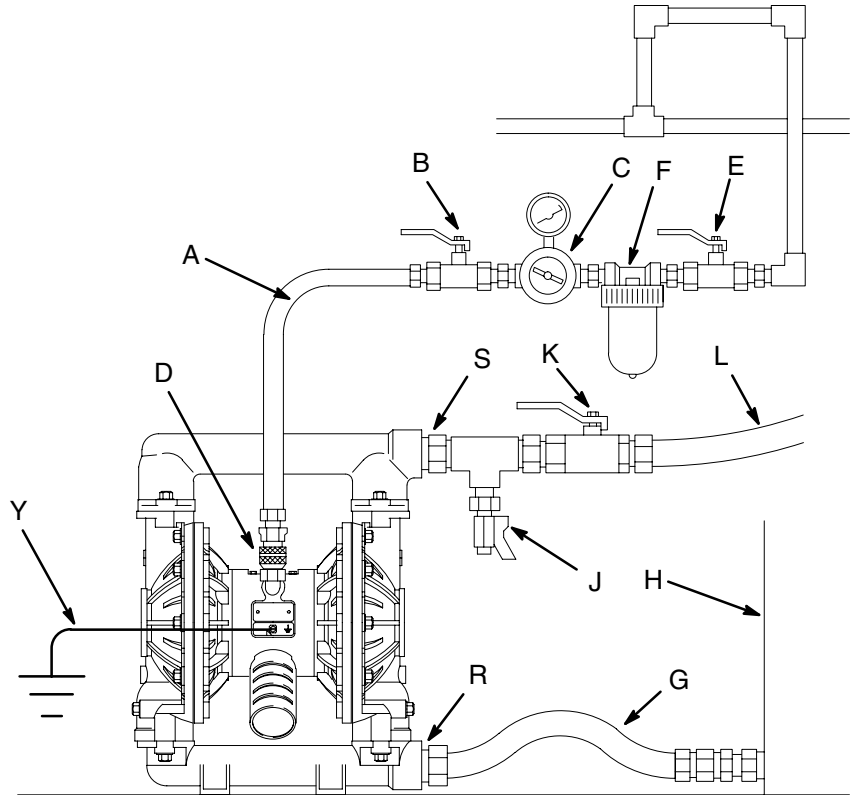
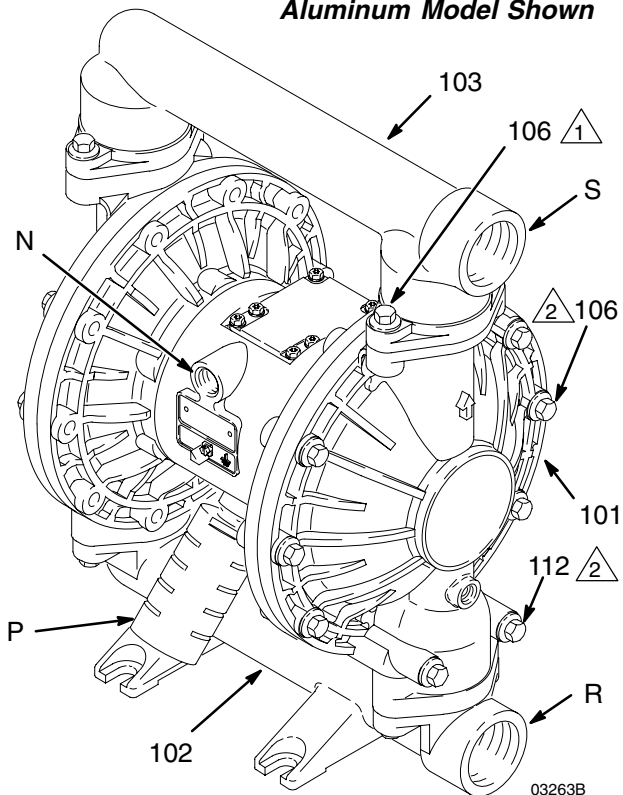

Fig. 2
Fig. 3
1. The Typical Installation shown in Fig. 2 is only a guide for selecting and installing system components. Contact your VERDER Customer Service for assistance in planning a system to suit your needs.
4. Lift the pump by grasping the outlet manifold (1) securely. See Fig. 3 on page 7.
A bleed-type master air valve (B) is required in your system to relieve air trapped between this valve and the pump. Trapped air can cause the pump to cycle unexpectedly, which could result in serious injury, including splashing in the eyes or on the skin, injury from moving parts, or contamination from hazardous fluids. See Fig. 2.
1. Install the air line accessories as shown in Fig. 2. Mount these accessories on the wall or on a bracket. Be sure the air line supplying the accessories is grounded.
- a. Install an air regulator (C) and gauge to control the fluid pressure. The fluid outlet pressure will be the same as the setting of the air regulator.
- b. Locate one bleed-type master air valve (B) close to the pump and use it to relieve trapped air. See the **Warning** above. Locate the other master air valve (E) upstream from all air line accessories and use it to isolate them during cleaning and repair.
- c. The air line filter (F) removes harmful dirt and moisture from the compressed air supply.
2. Install a grounded, flexible air hose (A) between the accessories and the 1/2 npt(f) pump air inlet (N). See Fig. 3. Use a minimum 13 mm ID air hose. Screw an air line quick disconnect coupler (D) onto the end of the air hose (A), and screw the mating fitting into the pump air inlet snugly. Do not connect the coupler (D) to the fitting until you are ready to operate the pump.
A fluid drain valve (J) is required to relieve pressure in the hose if it is plugged. The drain valve reduces the risk of serious injury, including splashing in the eyes or on the skin, or contamination from hazardous fluids when relieving pressure. Install the valve close to the pump fluid outlet. See Fig. 2.
1. **Use grounded fluid hoses (L).** The pump fluid outlet (S) is 1–1/2 in. bspt. On pumps 810.0195, 810.0196, 810.0197, and 810.0198, the pump fluid outlet is 1–1/2 in. npt. Screw the fluid fitting into the pump outlet securely.
2. Install a fluid drain valve (J) near the fluid outlet. See the **Warning** above.
3. Install a shutoff valve (K) in the fluid outlet line.
The pump is shipped with the fluid inlet (R) and outlet (S) ports facing the same direction. See Fig. 3. To change the orientation of the inlet and/or outlet port:
1. Remove the screws (106) holding the inlet (102) and/or outlet (103) manifold to the covers (101).
4. Place the end of the fluid hose (L) into an appropriate container.
5. Close the fluid drain valve (J). See Fig. 2.
6. Close the pump air regulator (C). Open all bleed-type master air valves (B, E).
8. Slowly open the air regulator (C) until the pump starts to cycle. Allow the pump to cycle slowly until all air is pushed out of the lines and the pump is primed.